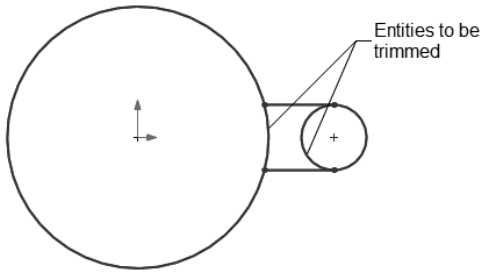
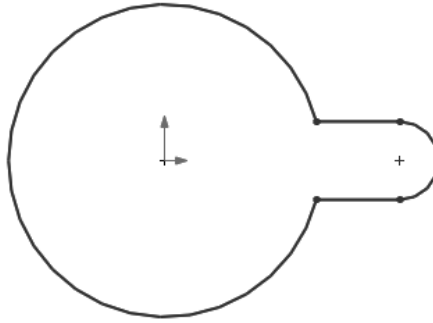

Figure 3-8 Entities to be trimmed
Figure 3-9 Sketch after trimming the entities
Trim away outside: The **Trim away outside** button in the **Options** rollout is used to trim the portion of an entity outside the bounding entities. To do so, invoke the **Trim PropertyManager** and choose the **Trim away outside** button from the **Options** rollout; the **Message** rollout will inform you to select the two bounding entities, and then to select the entities to be trimmed. Select the bounding entities from the drawing area, refer to Figure 3-8. Now, select the entities to be trimmed from the drawing area; the portion of the entity outside the bounding entities will be removed and the portion inside will be retained.
21. Move the trim cursor near the sketched entities to be removed one by one. Refer to Figure 3-8 for the entities to be trimmed. Next, click the left mouse button to trim them. Figure 3-9 shows the sketch after trimming the entities.